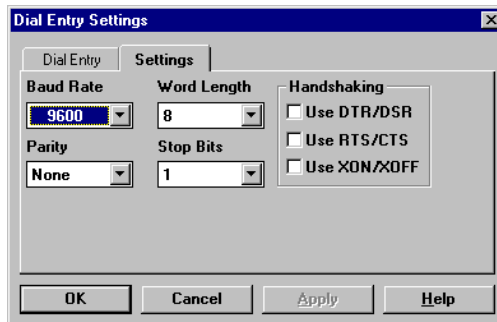

Figure 2.7: Settings Dialog Box - Settings Tab
5. Switch to the **Settings** tab (Figure 2.7).